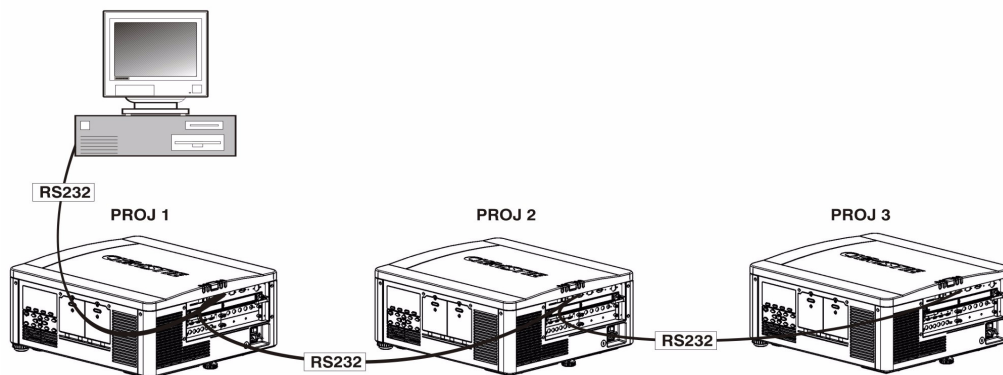

FIGURE 2-21 RS-232 NETWORK
3. Continue this pattern of connection with all projectors in the network. **NOTE:** *The last projector in the network will only have a connection to the RS-232 IN connector, see Figure 2-21 RS-232 Network.*